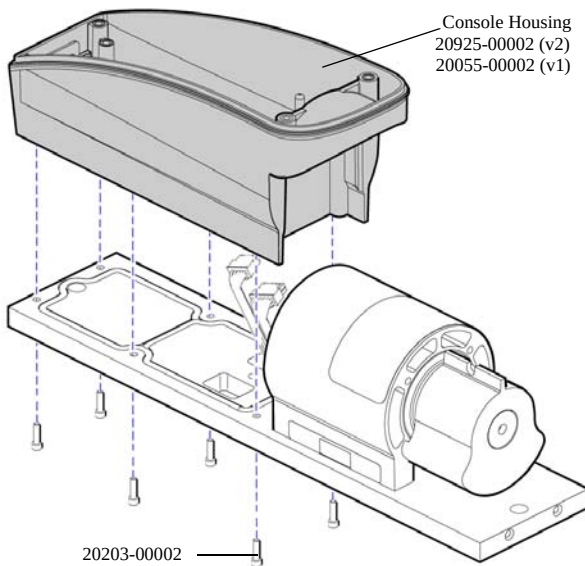

Figure 9-18: Remove and Install Console Housing
3. Depending on revision, use T-20 6-lobe wrench or 3mm hex wrench to remove (6) screws that attach base plate to console housing. See Figure 9-18.
2. Thread (6) SHCS, M4 x 0.7 x 16, 6-lobe screws (20203-00002) through base plate into console housing. See Figure 9-18.